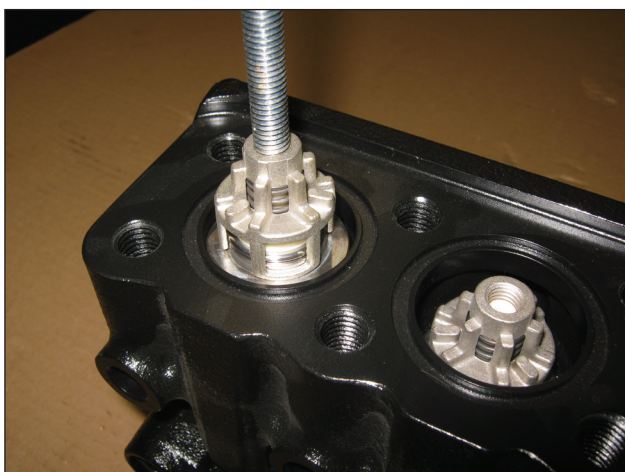

Fig. 18
- Extract the suction and outlet valve units using an extractor hammer code 26019400 (Fig. 18).